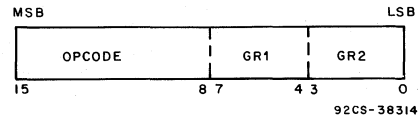

Fig. 4 - Register-to-register instruction format for MIL-STD-1750A instruction set.
In most 16-bit macroinstructions, the register designators are located in the lower eight bits with the opcode located in the upper eight bits. Fig. 4 shows the instruction format for register-to-register operation in the MIL-STD-1750A instruction set. The 16-bit instruction consists of an 8-bit opcode and two 4-bit general register (GR) fields that typically specify any of sixteen general registers. In addition, these fields may contain a shift count, condition code, opcode extension, bit number, or the operand for immediate short instructions. Typically, GR1 designates the R address and GR2 the T address.
The default inputs DEFU and DEFL play an important part in arithmetic operations. When DEFU is 1, the high nibble of SR goes to the RU output and the low nibble to the TU output. Similarly, if DEFL is 1, the high and low nibbles of SR go to RL and TL, respectively. With the sample instruction format in Fig. 4, GR1 is quickly provided as the R address and GR2 as the T address, independent of the contents of the RSR. This feature allows the storing of register-select controls for double precision, and the use of the default signals for single precision.